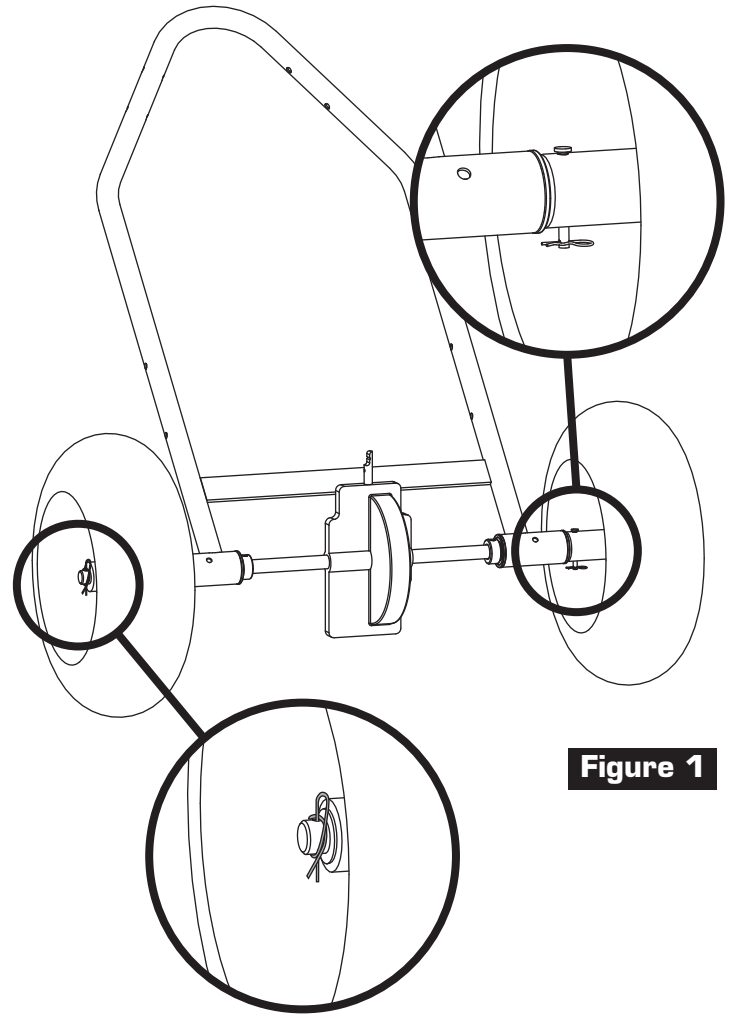

Figure 1
2. Install Wheel on each side of axle. On the drive wheel side, install $3/16 \times 1-3/4$ " Clevis Pin and Cotter Pin, Figure 1. On opposite side install wheel washer and Rue Ring Locking Pin on outside of wheel. **NOTE: Extra wheel washers are provided and are to be used for shimming as needed. Wheels need to set snug against frame.**